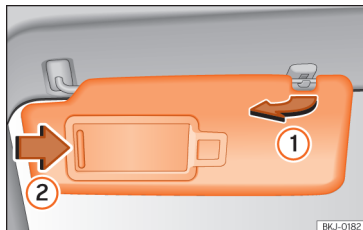

Fig. 79 Sun visor
- The sun visor can be pulled out of its mounting and turned towards the door »» Fig. 79 ①.